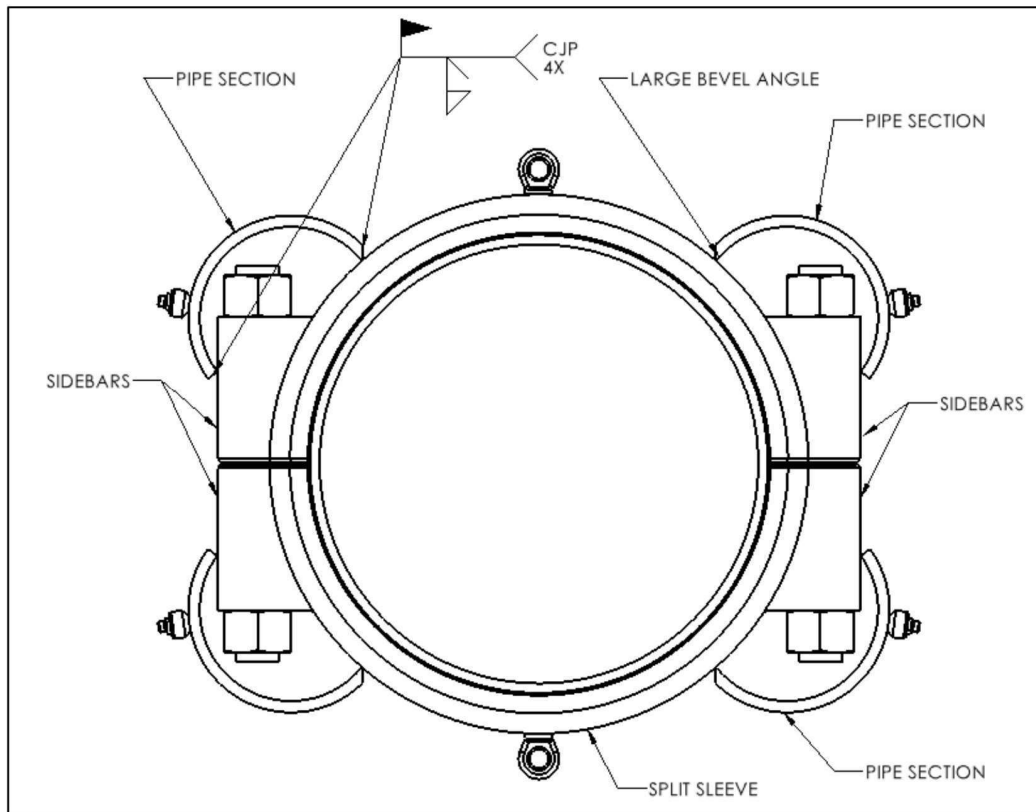

Figure 2
3. The Pipe Sections should be installed in a manner such that the larger of the two longitudinal bevels on the Pipe Section of the PLIDCO Stud Bolt Enclosure is mated against the outside diameter of the PLIDCO Split+Sleeve, as shown in Figure 2. Doing this will result in the smaller of the two longitudinal bevels be mated against the sidebar of the PLIDCO Split Repair Product.
4. Weld the eight longitudinal seams to the Split+Sleeve once the Pipe Sections have been fit per Figure 2.